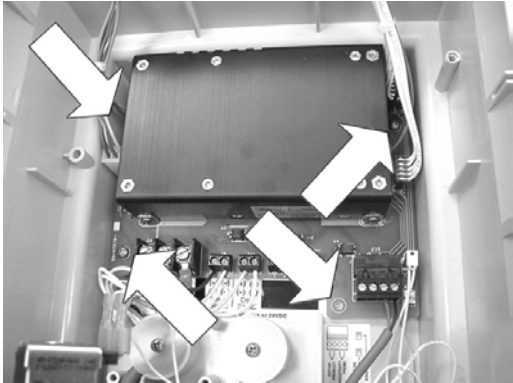
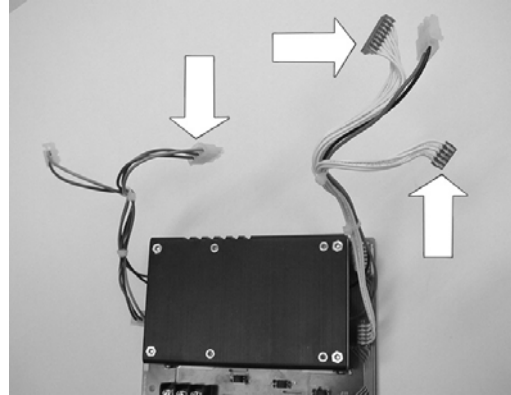

Figure 4
Figure 5
- 5.0 Disconnect the wiring harnesses from the controller board if not done previously. To remove the power supply, remove the four screws (Fig. 4) that hold it in place and tilt the power supply assembly out of the unit. With the power supply assembly removed, unplug the inter-connect wiring harnesses (3-wire, 5-wire and 8-wire) from the old power supply assembly and connect them to the replacement (Fig. 5). It will be necessary to cut away the cable ties from the harness bundles and replace them when installed in the replacement.